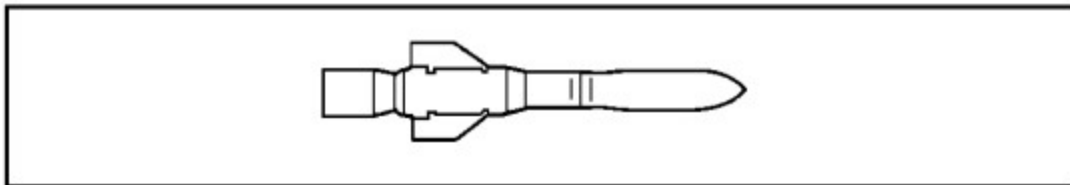

Figure 2-9. Antitank Guided Missile AT-5/SPANDREL.
(3) Limitations. Since the SPIGOT launcher must stay with the aiming and tracking assembly, i.e., the gunner, it is not possible to move him to a remote location for safety. And since the gunner must establish and maintain visual contact with the target, any means of disrupting his concentration is an effective countermeasure. Such means include flash blinding, suppressive fires, and smoke screening. Besides being effective and inexpensive, smoke also attenuates the IR guidance link with the missile tracker.
(4) Remarks. The AT-4/SPIGOT system, given the nickname "Fagot" (In Russian "Fagot" means "Bassoon") by the Soviets, was introduced in 1974. It is operational in all Warsaw Pact countries. The interoperability of the SPIGOT missile on the AT-5 launch vehicle and BMP-2 provides a significant logistic and tactical advantage, however, use of the SPANDREL missile on the AT-4 portable launcher has not been confirmed.
d. Antitank Guided Missile AT-5/SPANDREL. The following paragraphs discuss the AT-5/SPANDREL Guided Missile (shown in Figure 2-9).